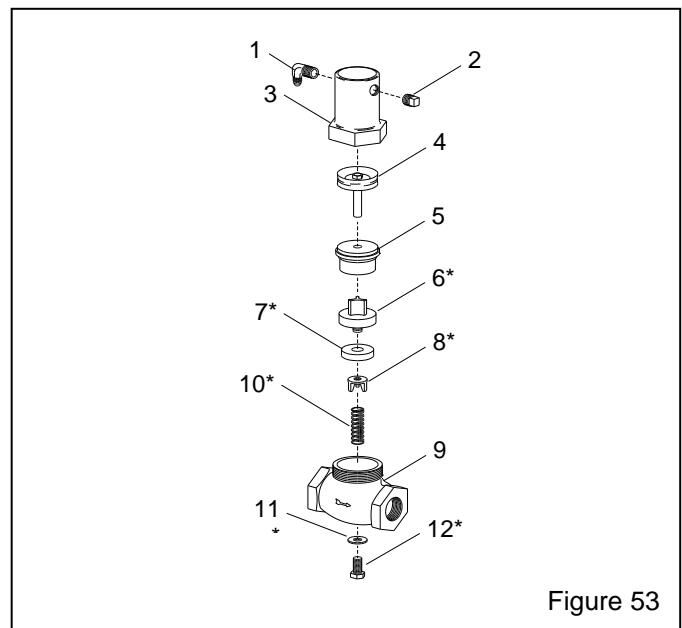

Figure 53
9.3 TLR Piston Outlet Valve – Figure 53